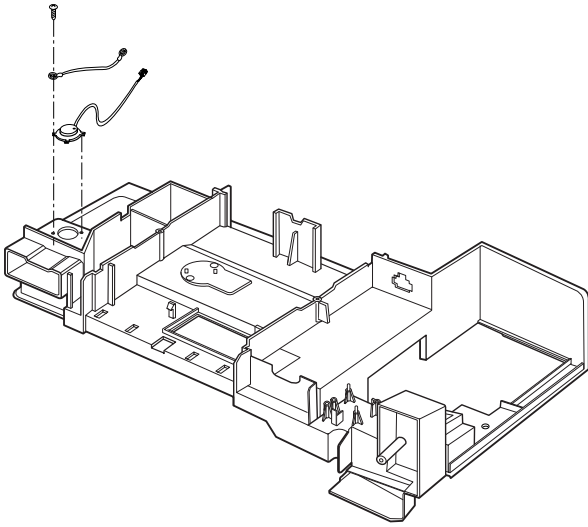

Figure 22
- (1) Remove the sensor by removing two screws securing it to the air duct. (See Figure 22)
- (2) Mount the new humidity sensor to the air duct.